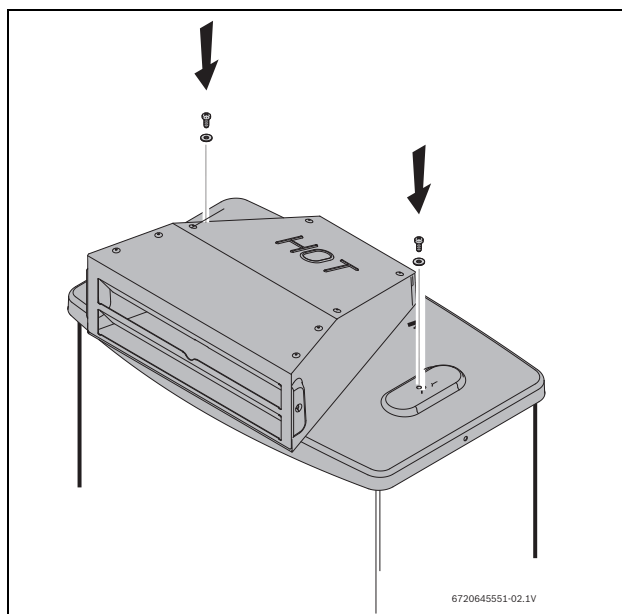

Fig. 15
- Attach the outdoor vent cap to the appliance by fastening the two provided screws and washers, see Fig. 15.